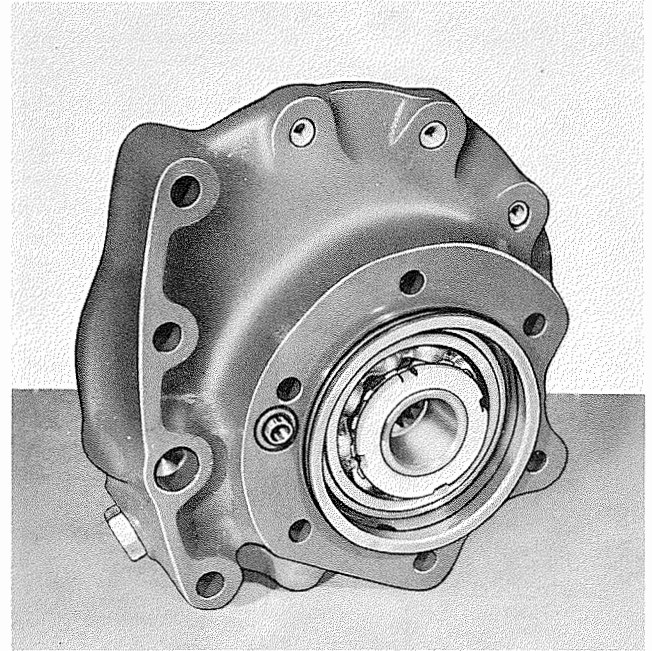

Figure 7-112. Front View of Gear Box Front Housing Showing Oil Seal Rings Installed
a. Install the oil seal ring in the boss on the propeller end of the front housing and in the counter-bore provided around the oil supply tube. See figure 7-112.